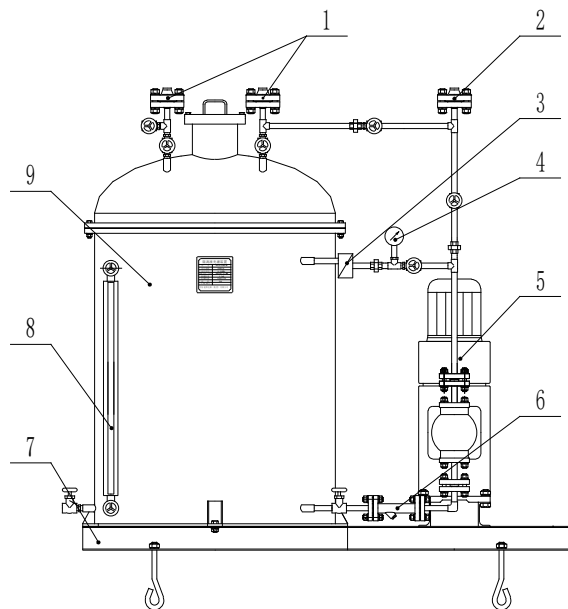

Figure 1
2.1 Main product structure - Figure 1